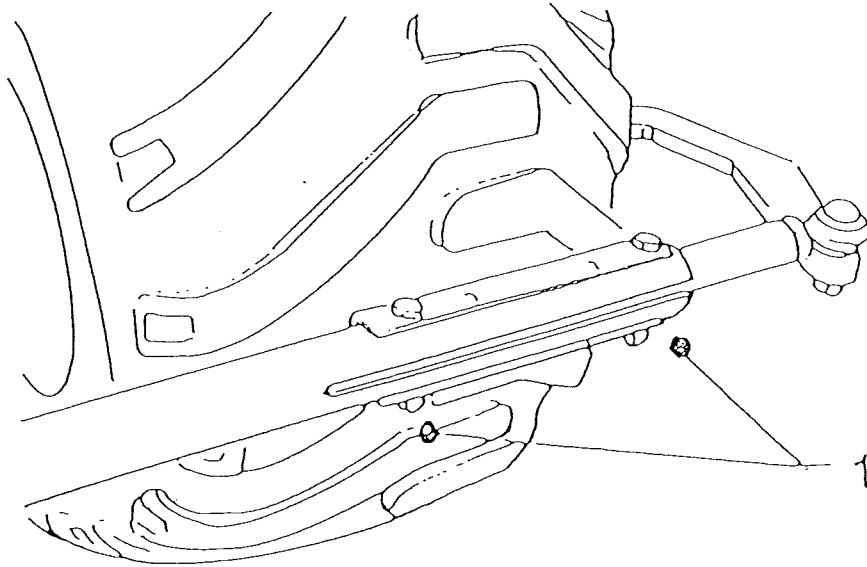
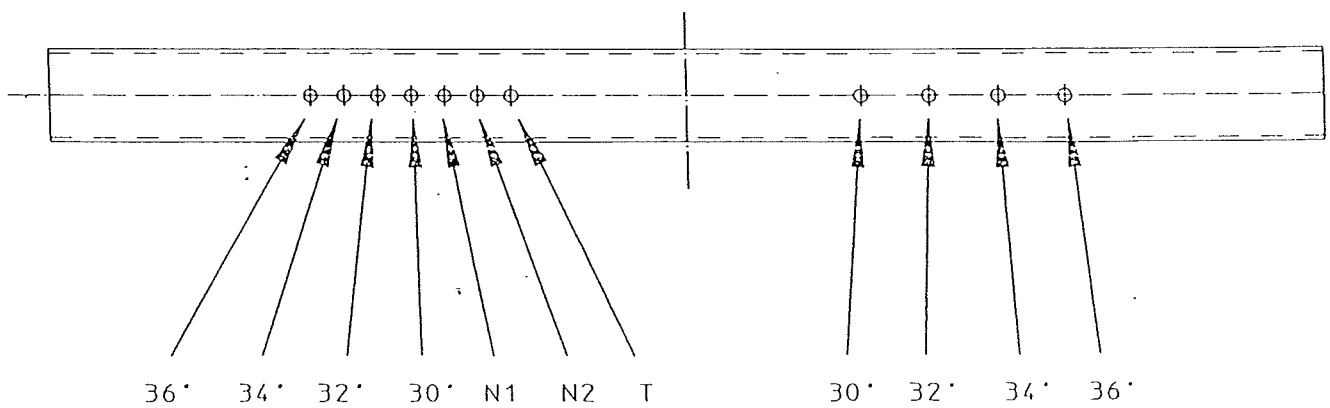

Fig 6.2
Fig 6.3
Remove the two bolts in the steering track rod (fig 6.2) and remove the pin through the main axle beam which secures the supported axle. Slide the axle to the new required position (fig 6.3) and replace the pin through the main axle beam. Repeat the whole operation for the opposite side wheel. Both axles must be set correctly even though the right hand wheel runs on cleared ground.
If, after having set the wheels to the required row widths, the left hand wheel is found to damage the edge of the row, it may be advisable to move the wheel in by one extra hole. For narrow settings, or for any special conditions which may be encountered, additional hole settings are available (fig 6.3).
After completion of the axle adjustments, the track rod will need to be reset. Slid the inner rod in or out, until there is approximately 25 mm toe in at the front of the wheels when they are in the straight ahead position. Replace and tighten the two bolts and nuts (fig 6.2 item 1).